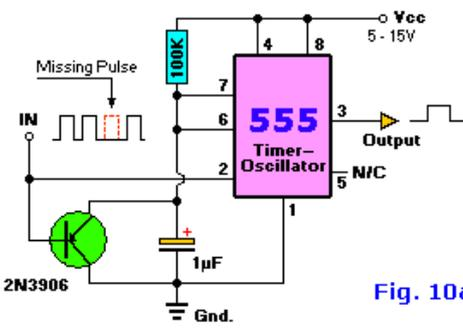

Fig. 10a
- Fig. 10a, Missing Pulse Detector (Basic)